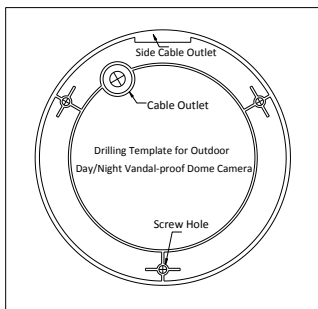

Figure 2-2 The Drill Template
3. According to the drill template as shown in Figure 2-2, drill three screw holes in the ceiling.